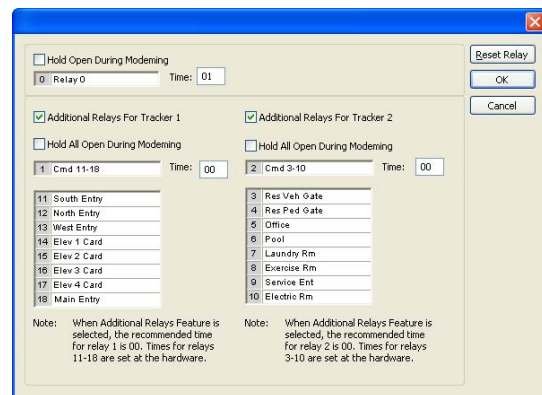

Figure 22
3. Click "Additional Relays For Tracker 1" button to enable system relays 11-18 (Fig 22).
In the example below, four time zones have been created. Refereeing back to Figure 22 on page 25, Relay 3 has been labeled Res Veh Gate (Resident Vehicle Gate). Time zones 1 and 2 have been applied to Relay 3, which means that on Monday through Friday, the resident vehicular gate will automatically open at 6:00 AM and remain open until 8:00 PM. On Saturday and Sunday, this gate will open at 8:00 AM and remain open until 8:00 PM.
Again refereeing back to Figure 22 on page 25, Relay 5 has been labeled Office. Time zone 3 has been applied to Relay 5, which means that the office door will unlock at 9:00 AM and remain unlocked until 5:00 PM Monday through Friday. This door will remain locked on the weekends.